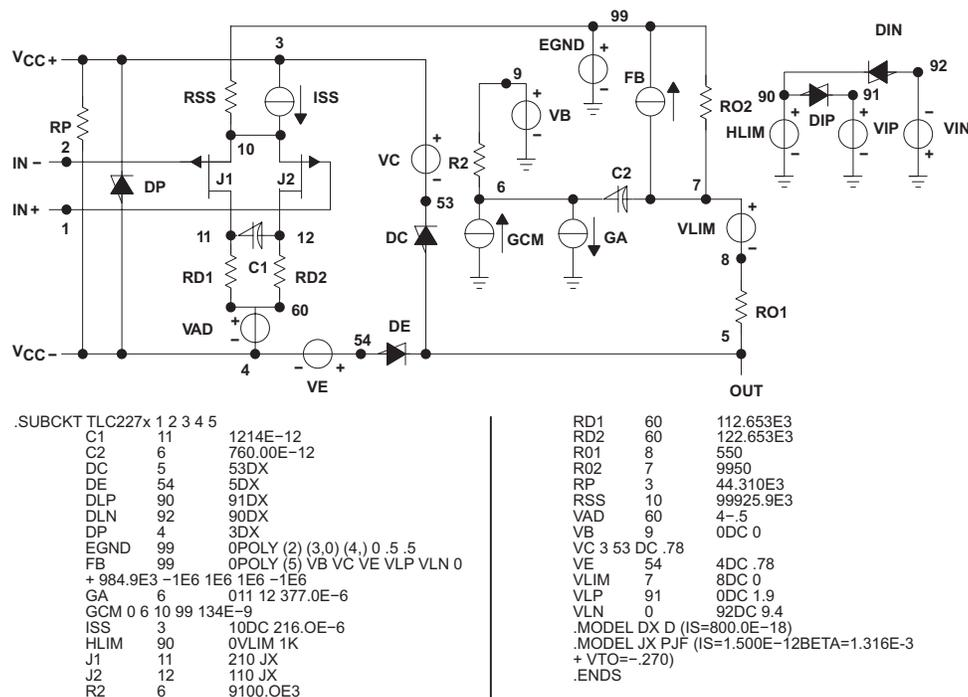

Figure 53. Boyle Macromodel and Subcircuit
Macromodel information provided was derived using MicroSim Parts™, the model generation software used with MicroSim PSpice™. The Boyle macromodel (1) and subcircuit in Figure 53 were generated using the TLC2274M-MIL typical electrical and operating characteristics at  $T_A = 25^\circ\text{C}$ . Using this information, output simulations of the following key parameters can be generated to a tolerance of 20% (in most cases):